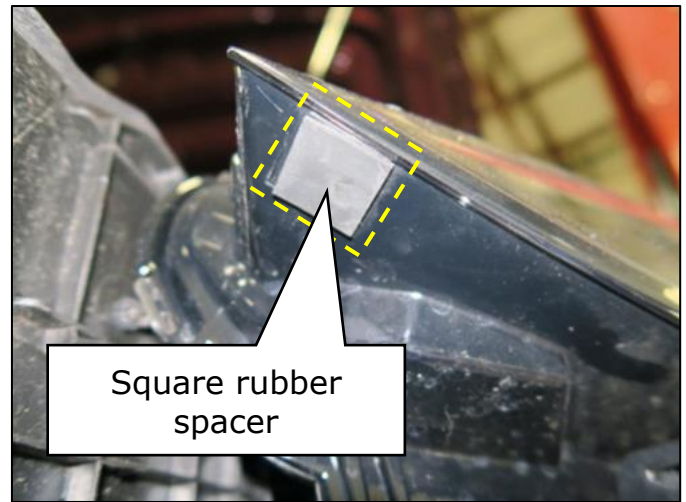

Figure 28
25. Locate and remove the square or triangle foam spacer from both headlamps. (Figure 28)